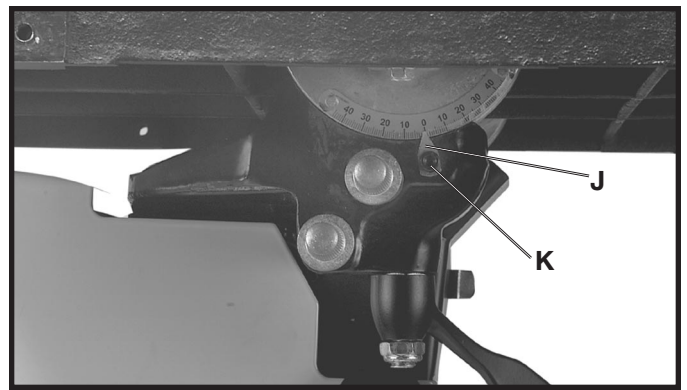

Fig. 47
7. Set pointer (J) Fig. 47 to "0" by loosening screw (K) Fig. 47, and move pointer (J) to the "0" degree mark, and tighten screw (K).
4. The angle can be set by turning the stop screw and checking the angle on the side of the scale with pointer (J) Fig. 47.